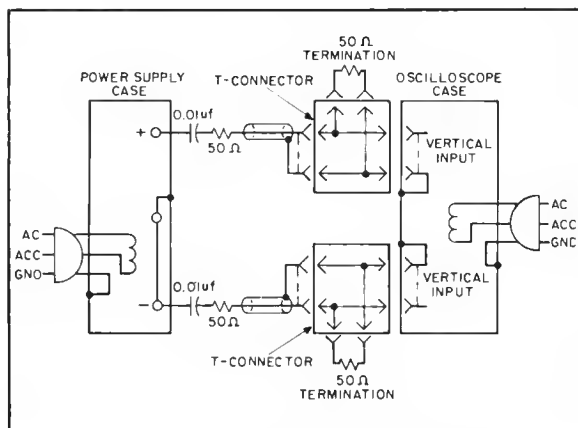

Figure 5-4. CV Noise Spike Test Setup
- As shown in Figure 5-4, two coax cables, must be substituted for the shielded two-wire cable.
5-31 The circuit of Figure 5-4 can also be used for the normal measurement of low frequency ripple and noise; simply remove the four terminating resistors and the blocking capacitors and substitute a higher gain vertical plug-in in place of the wideband plug-in required for spike measurements. Notice that with these changes, Figure 5-4 becomes a two-cable version of Figure 5-3C.